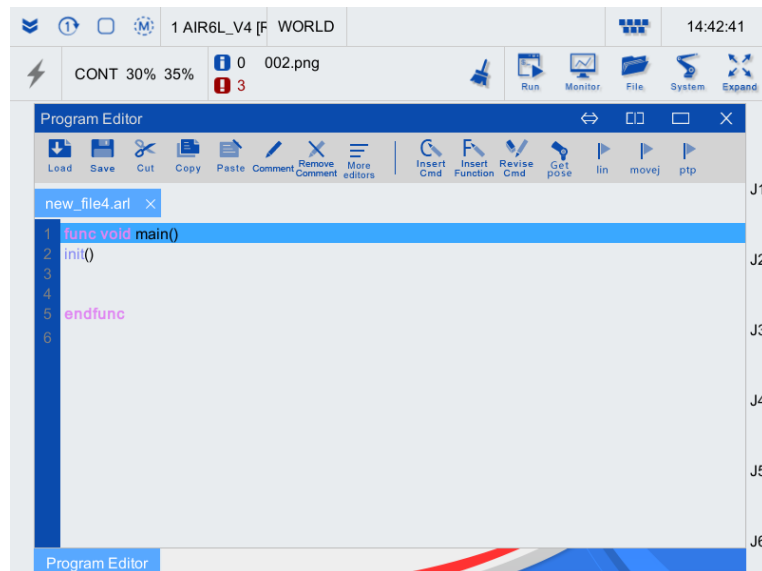

Figure7-2 Program editor
Step2. Double-click the file to open it in the program editor. All arc welding instructions can be inserted in the program editor, as shown in Figure7-2.